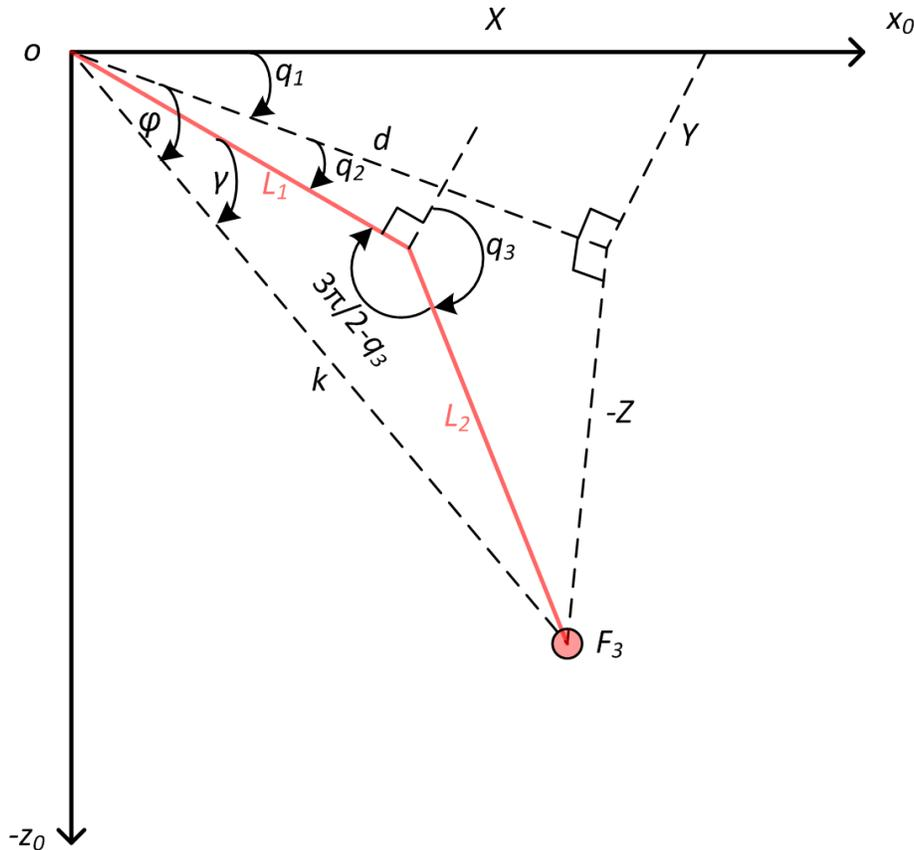

Figure 4.1: Geometry to derive inverse kinematics
1. You will use Figure 4.1 to geometrically derive the inverse kinematics equations. Notice that this figure does not show the end-effector. In other words, the inverse kinematics analysis will be performed by assuming that you have the position of frame 3 in global coordinates and based on it you want to find the position of each joint. Frame 3 is indicated by point F_3 on the diagram.
Note: In Figure 4.1, triangle **-zdk** is in the vertical (x-z) plane, and triangle **YXd** is in the horizontal (x-y) plane.